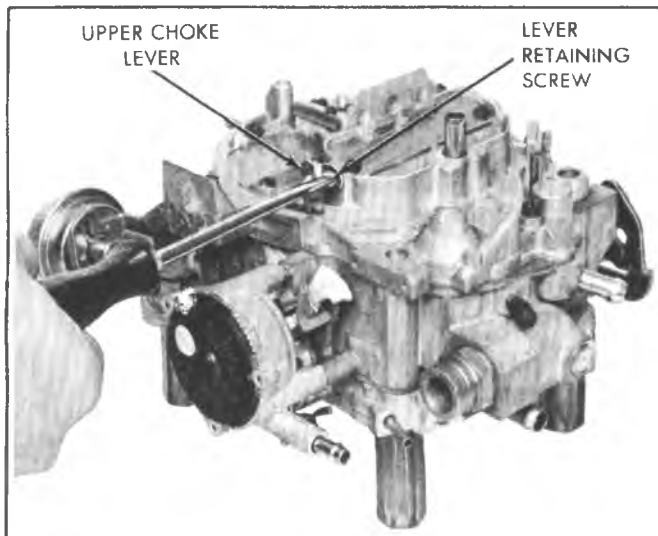

Fig. 6C4-25--Removing Upper Choke Lever
4. Using special tool J-25322, drive small roll pin (pump lever pivot pin) inward just enough until pump lever can be removed from air horn. Then remove pump lever from pump rod (Fig. 6C4-27).
5. Remove nine (eleven on California models) air horn to bowl attaching screws; then remove the two countersunk screws located next to the venturi (Fig. 6C4-28). Remove secondary air baffle deflector from under the two center air horn screws.
6. Remove air horn from float bowl by lifting straight up. The air horn gasket should remain on the float bowl for removal later (Fig. 6C4-29).